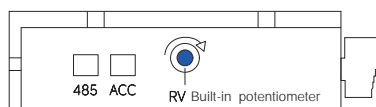

Figure 1
- Built-in potentiometer RV speed control: Rotate the built-in speed control potentiometer RV clockwise, and the motor starts to run. Turn it counterclockwise to the limit position, at this time, the built-in potentiometer RV will be closed, and the motor will stop running---Figure 1.